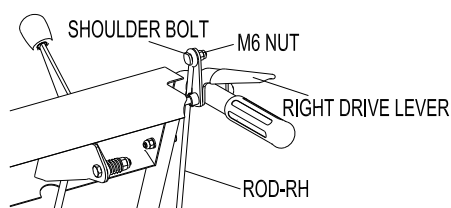

FIG 6
- 2.4.2** Attach the upper side of the rod by removing the shoulder bolt from the drive lever and placing the bolt through the rod loop and tighten. (FIG 6)